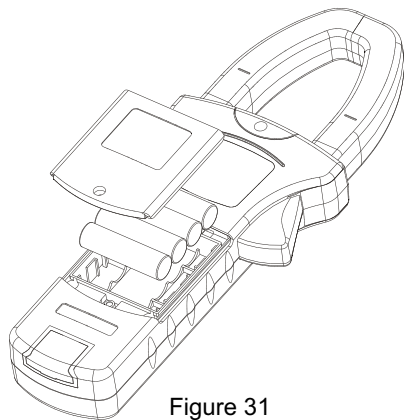

Figure 31
10、Battery replacement (shown in Figure 31)